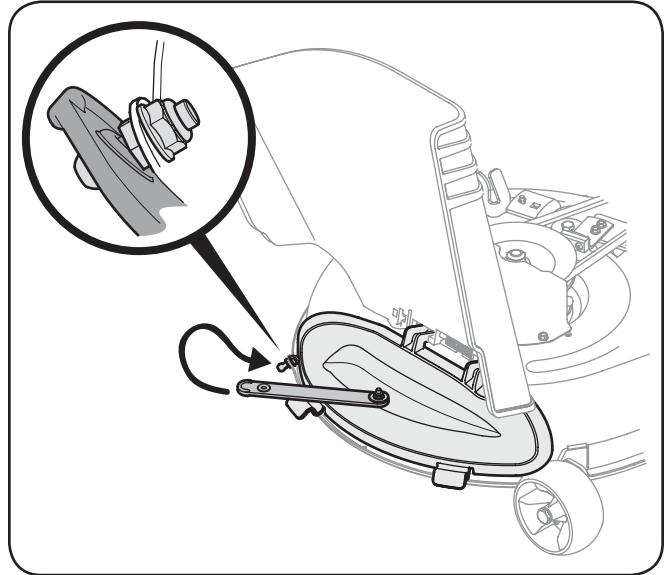

Figure 1-5
4. Secure the mulch plug assembly in place by attaching its strap to the pin. See Fig. 1-5.